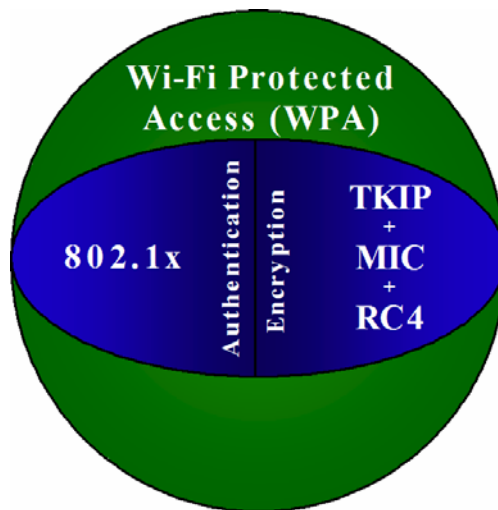

FIG. 98 WPA Overview
- To resolve problems with WEP, the Wi-Fi Alliance released WPA (FIG. 98) which integrated **802.1x**, **TKIP** and **MIC**. Within the WPA specifications the RC4 cipher engine was maintained from WEP. RC4 is widely used in SSL (Secure Socket Layer) to protect internet traffic.